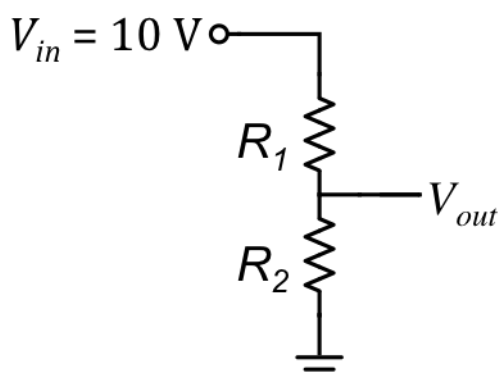

Figure 2 - Voltage divider circuit.
In this portion of the lab, you will construct the circuit shown in Figure 2 using a solderless breadboard. You will then measure V_{out} as a function of the resistance R_2 . Copy the circuit diagram and table into your lab notebook.
2. Sketch the circuit shown in Figure 2 in your lab notebook, and write down the voltage divider equation, Eq. (1), in your lab notebook.
6. Insert this resistor into breadboard as R_2 to form the circuit shown in Figure 2. Use the breadboard's built-in power supply to provide $V_{in} = 10$ V to the circuit. Make sure the other end of the circuit is properly connected to ground.